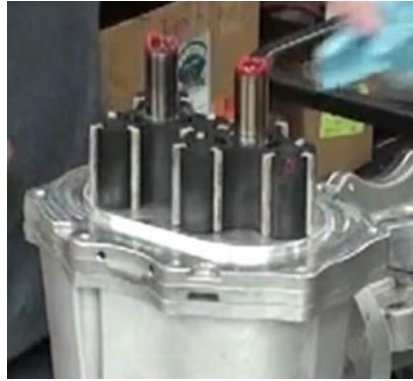

Figure 7
4. Orient the pump so that the lobe gears are accessible, Figure 7.